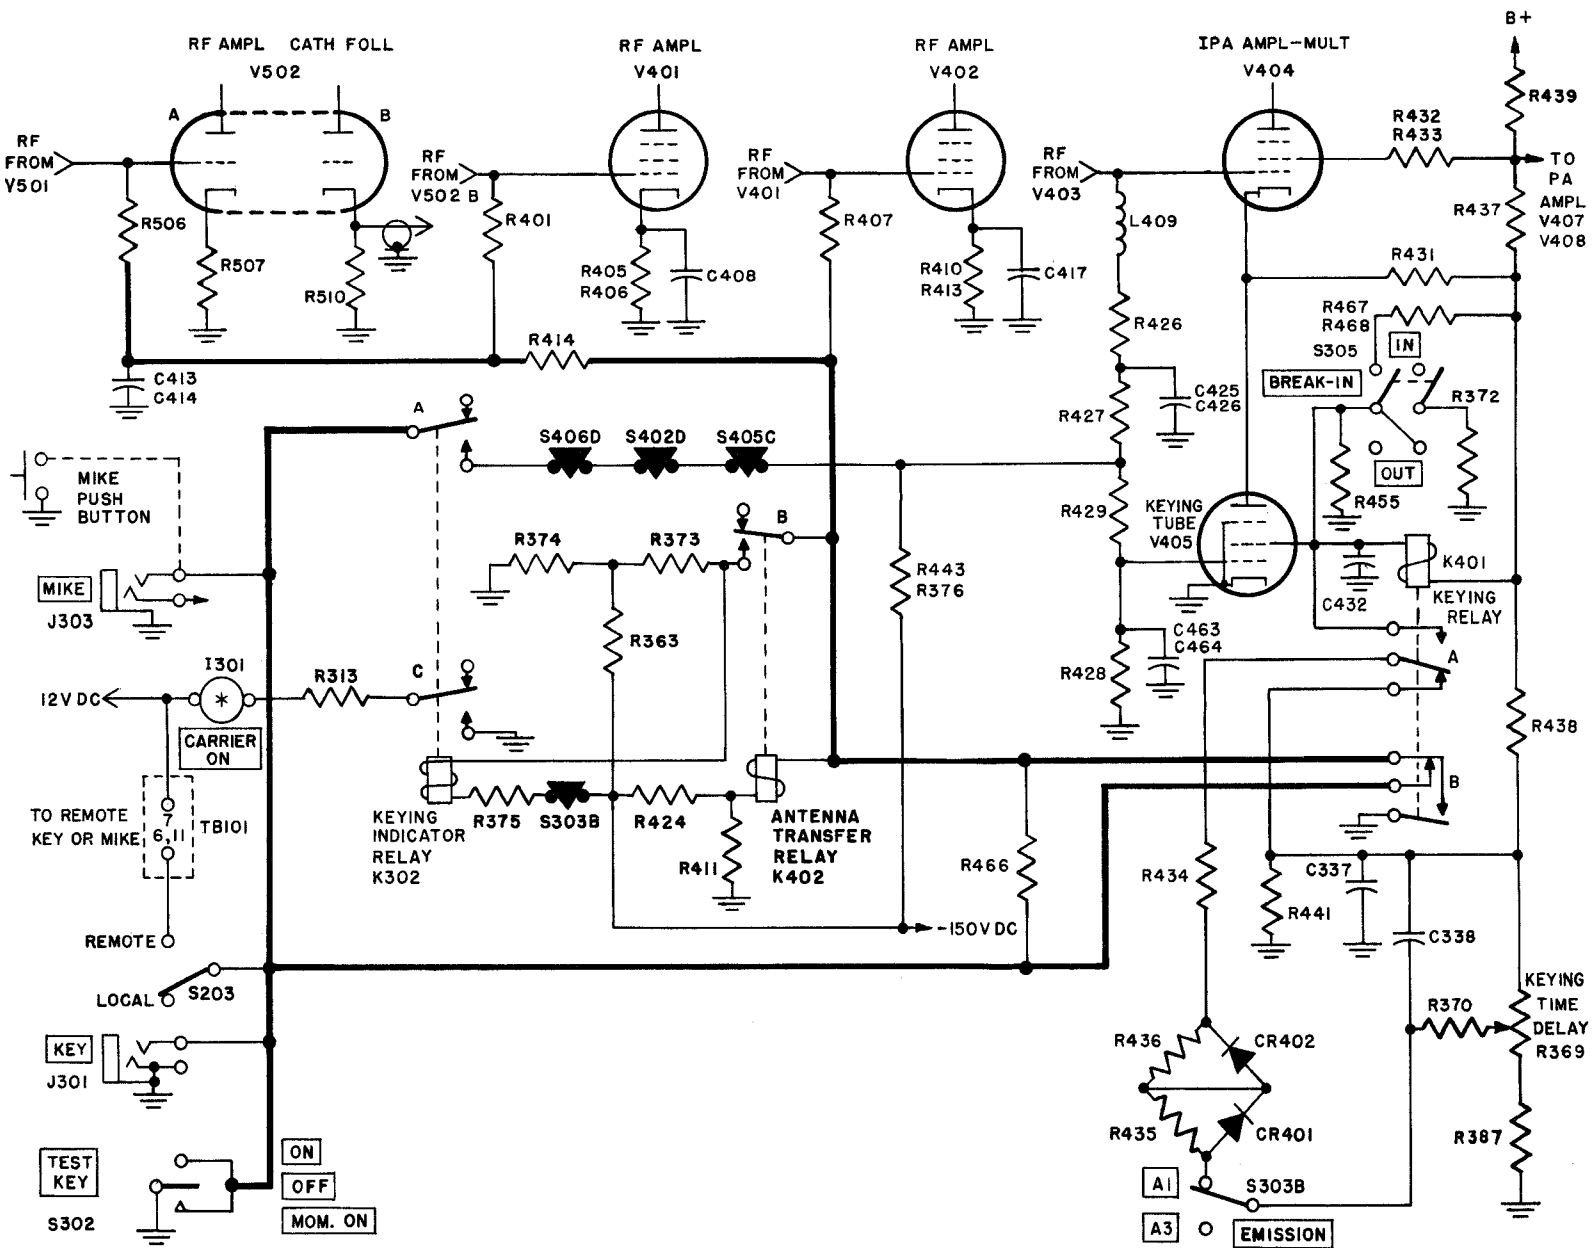

Figure 2-3. Keying Circuit
a. Refer to figure 2-3. CW operation (A-1) requires operation of TEST KEY S302 or insertion of a telegraph key into KEY jack J301. When the key is closed a ground is placed on the key line through a contact of keying relay K401. The grounded key line places the grids of V401, V402 and V502 at ground. Current now flows from -150V dc through the antenna change-over relay K402, closing the contacts of K402 and energizing the keying indicator relay K302. This places a ground on R313 and current flows from the 12V dc supply causing the CARRIER ON lamp I301 to light. A ground is also placed on the grid of V405, contacts of K302 and band switch interlocks S303B, S406D, S402D and S405C to the junction of resistors R427 and R429. Therefore, with the key depressed a ground appears upon the grids of V502, V401, V402 and V404 causing these tubes to conduct and pass rf signals. Plate voltage for keying tube V405 is supplied from the LV power supply through a network of resistors. K401, in the screen grid circuit of V405, does not have sufficient current to close its contacts when the key is not depressed, but when V405 conducts enough current flows in its screen circuit to close the contacts of K401. Therefore, relay K401 follows the action of the key. At the same time, V404 is allowed to conduct due to the removal of the bias and because its cathode is now near ground potential. The amount of rf signal passed to V404 is controlled by the GAIN CONTROL, a potentiometer in the cathode circuit of amplifier multiplier V403, a type 6AG7 tube.